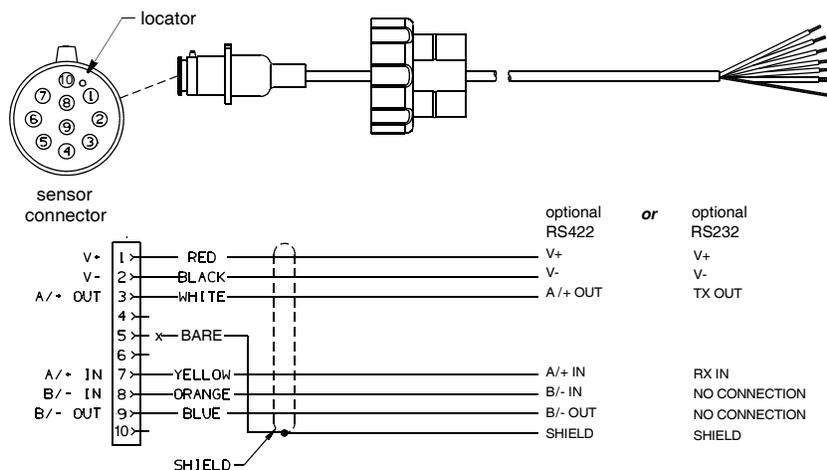

Figure 4. NMEA 0183 sensor cable
If your sensor cable does not have a connector on the display end, it must be hard wired. Referring to the owner's manual that came with your display, connect the colored wires as shown in Figure 4.
CAUTION: Your sensor has either an RS-422 or RS-232 standard. You must follow the wiring diagram in Figure 4 that matches your sensor. If it is wired for the wrong standard, it will not transmit and receive data properly.
2. Strip 60 mm (2-1/2") of the outer jacket and foil shielding from the cut end of the cable (Figure 4).